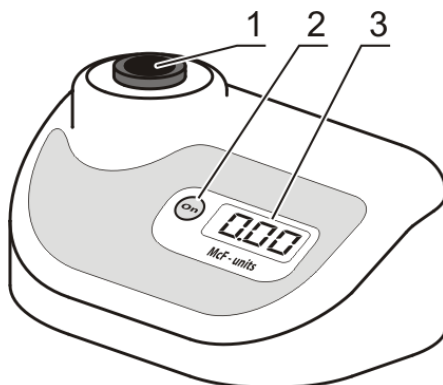

Figure 2. Front view
- Check if the A-16 adapter is in the socket (fig. 2/1). The device is calibrated for operation with the glass tubes 16 mm in external diameter. To use different tubes, recalibrate the unit, see the **Calibration** section of the manual.
- 5.3. The following indication may be shown on the display (fig. 2/3):
Note. The display of **DEN-1B** switches off if the socket is empty for longer than one minute. Press the **On** key (fig. 2/2) to activate the unit.
- 5.6. Insert the tube into the socket of densitometer (fig. 2/1). The McFarland value for the solution will be shown on the display (fig. 2/3).
- 6.6.2. **Transparent standard.** Display shows $\square.\square\square$ indication. Insert standard for **0.00** value into the socket (fig. 2/1) of the unit. If the standard for 0.00 value is not available, fill the tube (of the kind that is used for operations) with distilled water. Use the tube as the **0.00** value standard. Press **Install** button to save transparent standard value. Display shows next required calibration value.
- 6.7. **Common calibration rules.** Display shows indication of necessary calibration value. Insert the necessary standard into the socket (fig. 2/1) of the unit and press the **Install** button to save the value for current standard.